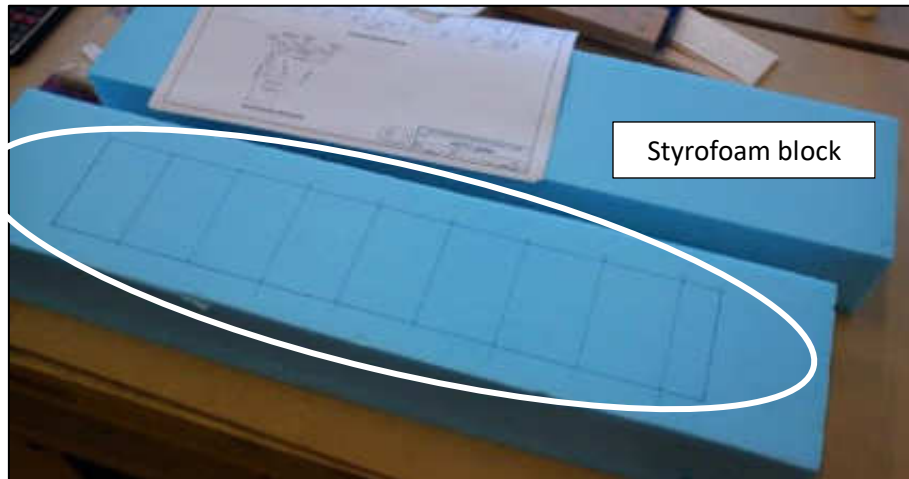

Figure 1: Marking the wing layout.
1. Using a pen, a ruler and a set square, mark out the position of the ribs and the leading and trailing edges of the wing on a block of styrofoam, as shown in Figure 1. The rib spacing is 52mm and the distance from the leading to the trailing edge is 95mm (the dimensions are shown in Appendix 1 in this document).